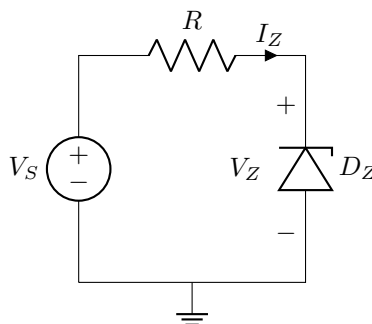

Figure 3: Zener diode characteristic measurement circuit. The Zener diode is reverse-biased with the cathode toward the positive supply.
You will now investigate the voltage regulation properties of a Zener diode operating in its breakdown region. Construct the circuit shown in Figure 3 using your Zener diode and a  $100\ \Omega$  resistor. Pay careful attention to the polarity: for the Zener to operate in breakdown, its cathode (the marked end) must be connected toward the positive terminal of the supply through the resistor, and its anode must be connected to ground. This is the reverse of normal diode operation.
4. For the Zener circuit in Figure 3, assume  $V_S = 10$  V,  $R = 100\ \Omega$ , and  $V_Z = 5.1$  V (and assume this voltage remains constant in breakdown). Calculate (a) the current through the Zener diode, (b) the power dissipated by the Zener diode, and (c) determine whether this exceeds a 1 W power rating. Show all work.
5. Explain in your own words the difference between static (DC) resistance and dynamic (small-signal) resistance of a diode. Write the mathematical expression for calculating each type of resistance.